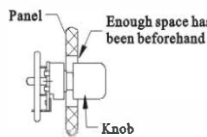

Figure 5 Prevent knob from scuffing panel
7. Sufficient fitting clearance should be arranged when calculating the diameter of the mounting hole prepared for the actual products may be different from that in this catalogue. Knob in the panel. Too tight fitting together with deviation of knob center line and unsteadiness of the shaft handle will cause scraping and friction between the knob and the panel. (see figure 5)